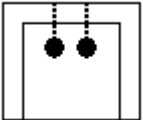

Figure 5
- The original grommet must be modified for use with the Ignitor. Cut from above each wire down into the grommet, making two parallel cuts. (See figure 5).